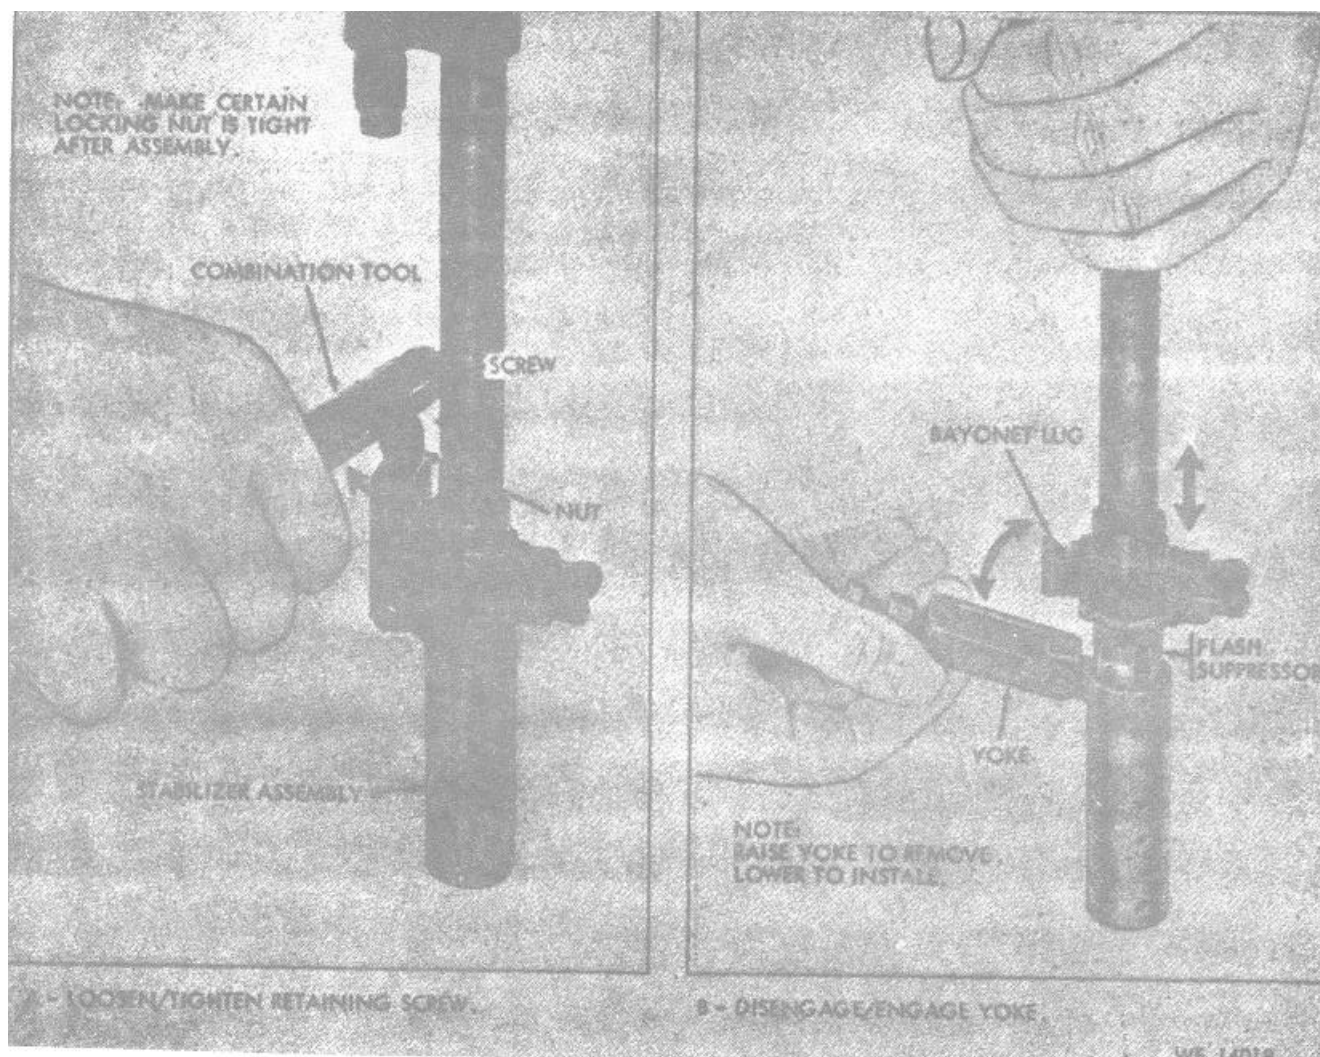

Figure 2-9. Remove/install stabilizer assembly.
- b. Removal/ installation. Refer to figure 2-9 and TM 9-1005-223-10.